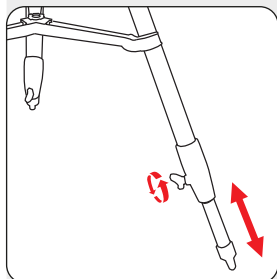

Fig. 5: Extending the tripod legs
2. Loosen the wing screws (6) of the tripod leg clamps (5) and pull out the lower tripod leg sections (7) to the desired length. Then tighten the wing screws again (Fig. 5).